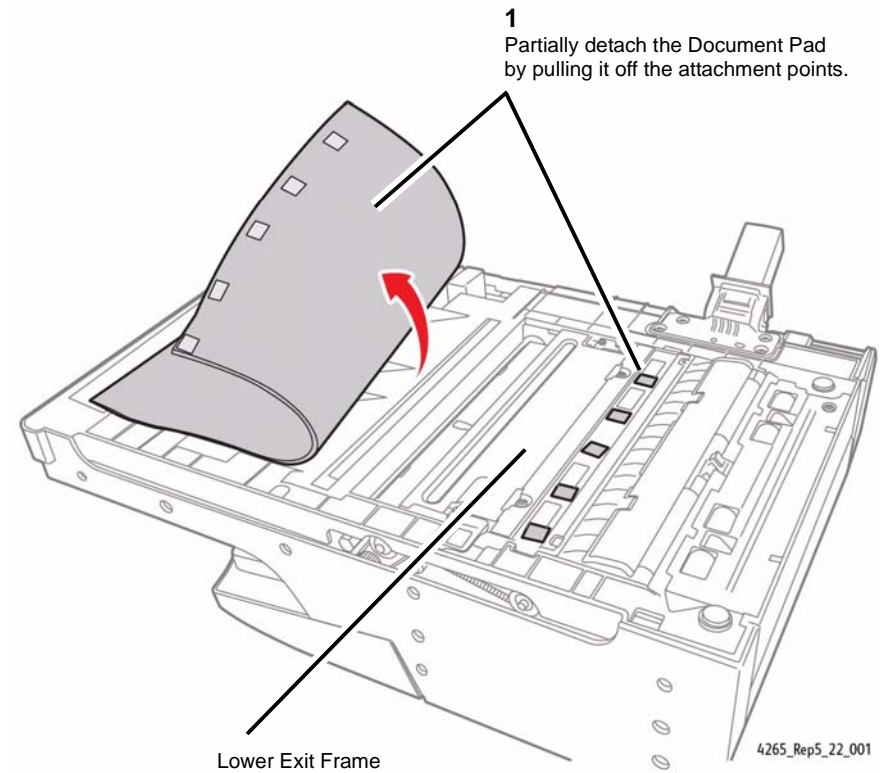

Figure 1 Exposing the Lower Exit Frame
4. Partially detach the Document Pad to expose the Lower Exit Frame (Figure 1).